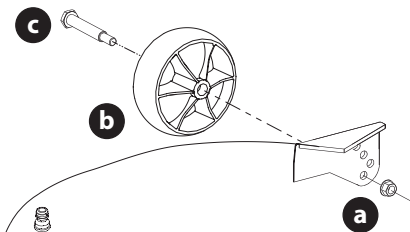

Fig. 11
- Remove the lock nut (a), gauge wheel (b) and shoulder screw (c) from the deck (Fig. 11).